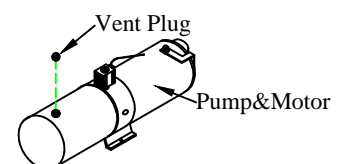

Figure 18: Vent plug.
- 1. Unscrew** the solid plastic plug from the pump reservoir and **Install** the vent plug provided (Figure 18).